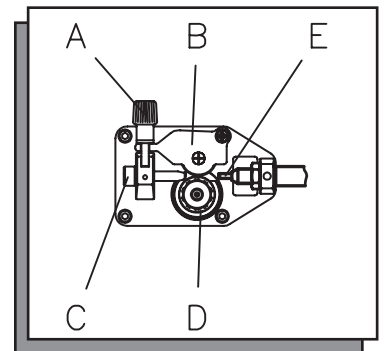

FIG. 11
- ✓ Loosen and lower the plastic knob (A-FIG11). Release the upper roll (B-FIG11) of the feeder. Extract the wire from the torch liner.
- ✓ When the wire is disconnected, grasp it with pliers so that it cannot exit from the spool. If necessary, straighten it before inserting it in the wire input guide (C-FIG11). Insert the wire on the lower roll (D-FIG11) and in the torch liner (E-FIG11).
- ✓ Lower the upper roll (B-FIG11) and place the knob (A-FIG11). Tighten slightly. If tightened too much, the wire gets locked and could cause motor damage. If not tightened enough, the rolls will not feed the wire.